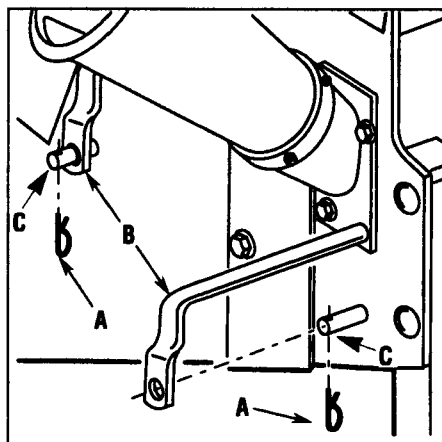
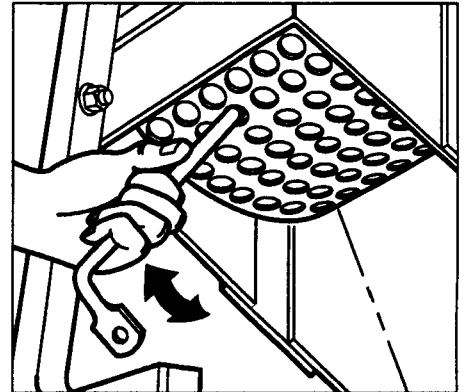

Figure 4-5: Remove both hair pin cotters (A) and slide out two discharge screen rods (B).
Figure 4-6: If screen is stuck, pry it loose using one of the screen retainer rods.
3. Remove two hair pin cotters (A, Figure 4-5) from two small studs (C) securing ends of the two discharge screen rods (B).
4. Pull out the two discharge screen rods (B). Support the screen or bar grate so that it doesn't fall on you.
5. If the screen doesn't drop out, hook the end of a discharge screen rod into a hole in the screen (Figure 4-6). Pry the screen downward until it drops free.
5. Hold the discharge screen or bar grate in position and slide the two screen rods (B, Figure 4-5) all the way through the screen tubes and out the other side of unit. Insert the rear rod first, followed by the front rod. NOTE: The holes in the ends of the screen rods (B, Figure 4-5) must go over the two stud pins (C) on the machine wall.
6. Replace the two hair pin cotters (A, Figure 4-5) through the stud pins (C). The discharge screen or bar grate is now securely installed. If the hair pin cotters become lost, call for replacements immediately. **DO NOT OPERATE UNIT WITHOUT ORIGINAL EQUIPMENT PINS INSTALLED PROPERLY.**